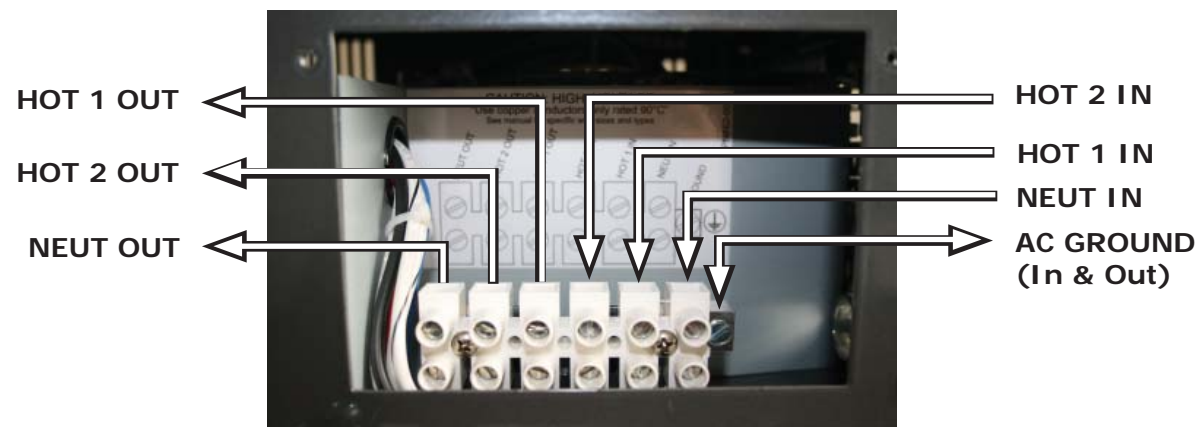

Figure 2-8, AC Terminal Block
The ME2012, ME2512, and ME3112 models have a six-pole AC terminal block and one AC ground terminal to connect the inverter's AC input and output wiring. This terminal block (see Figure 2-8) allows a service/distribution panel (main panel) to be wired to the inverter's input, and also allows a dedicated panel (sub-panel) between the inverter's output wiring and the AC loads. To access and view the AC terminal block and ground terminal, remove the two Phillips screws holding the AC wiring access cover plate (see Figure 1-3, Item 15).
AC Side – Where the AC output from the inverter is connected to an AC load center, there should be an equipment grounding conductor connected between the inverter case and the grounding point in the AC load center. The AC equipment grounding conductor is sized per Table 2-4, and is connected to the inverter’s AC equipment grounding terminal as shown in Figure 2-8.
1. Remove the two Phillips screws on the AC access cover (Figure 1-3, Item 15) to access the internal AC terminal block (Figure 2-8).